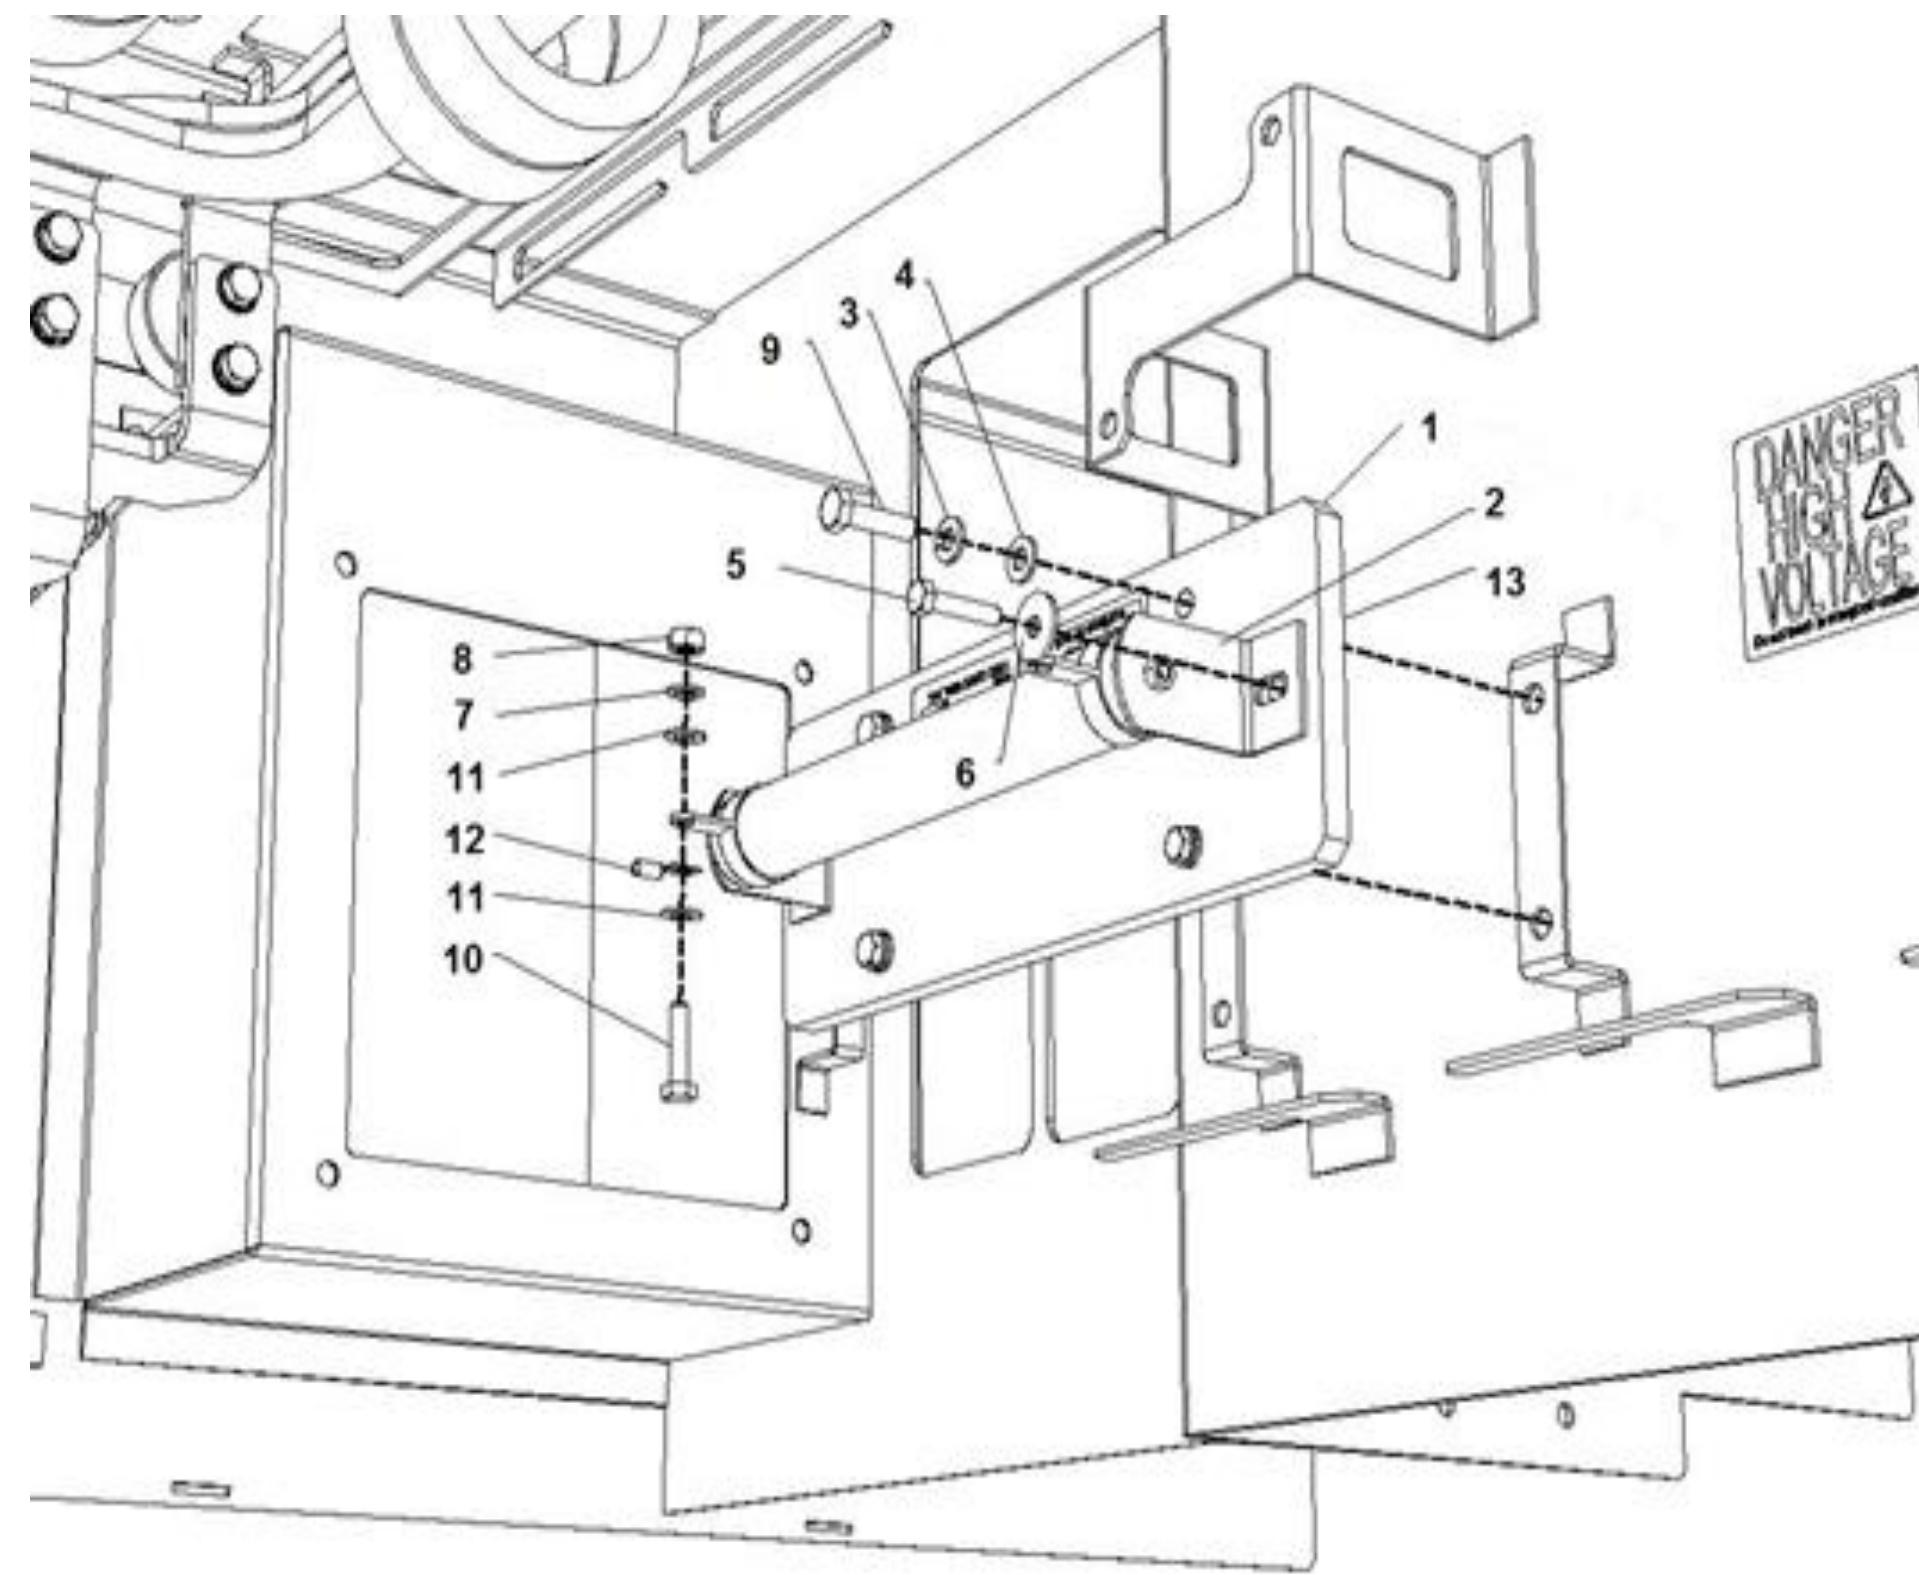

Figure 5-27: Charging Resistor Installation
As seen in Figure 5-27 -
3. The Charging Resistor is shown in Figure 5-27. Disconnect the electrical wiring from each end of the charging resistor (2) (wiring not shown on drawing). Use an 8 mm socket to remove the M5 hex head bolt and nut (8) from the resistor terminals.
4. Remove the resistor bracket from the equipment case (1) by loosening the four M6x25 hex head bolts (9). The discharge resistor can now be removed.
1. To replace only the resistor (2), remove the two M5 x 25 head bolts (5) that hold the resistor to the bracket (13). Use an 8 mm socket. Remove the resistor.
2. Install a new resistor and tighten the bolts (9) and large plain washers (6). Torque to 3.4 Nm (30.1 in-lbs).
3. Attach to the enclosure frame with four M6 hex head bolts (9), lock washers (3), and flat washers (4) as shown in Figure 5-27. Torque to 5.8 Nm (51 in-lbs.). Use a 10 mm socket.
4. Matching each wire marker to the placard attached to the resistor, attach the electrical connections (12) to each terminal. Using an 8 mm socket, attach the M5x16 bolt (10), hex nut (8), flat washer (11) on each side, and lock washer (7) next to the nut. Torque to 3.4 Nm (30.1 in-lbs.). Use an 8 mm socket.